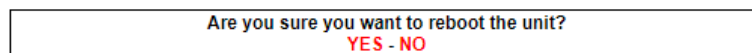

Figure 61. Configurator GUI (unit reboot dialog)
- The unit reboot dialog will be shown (Figure 61 (page 143)).